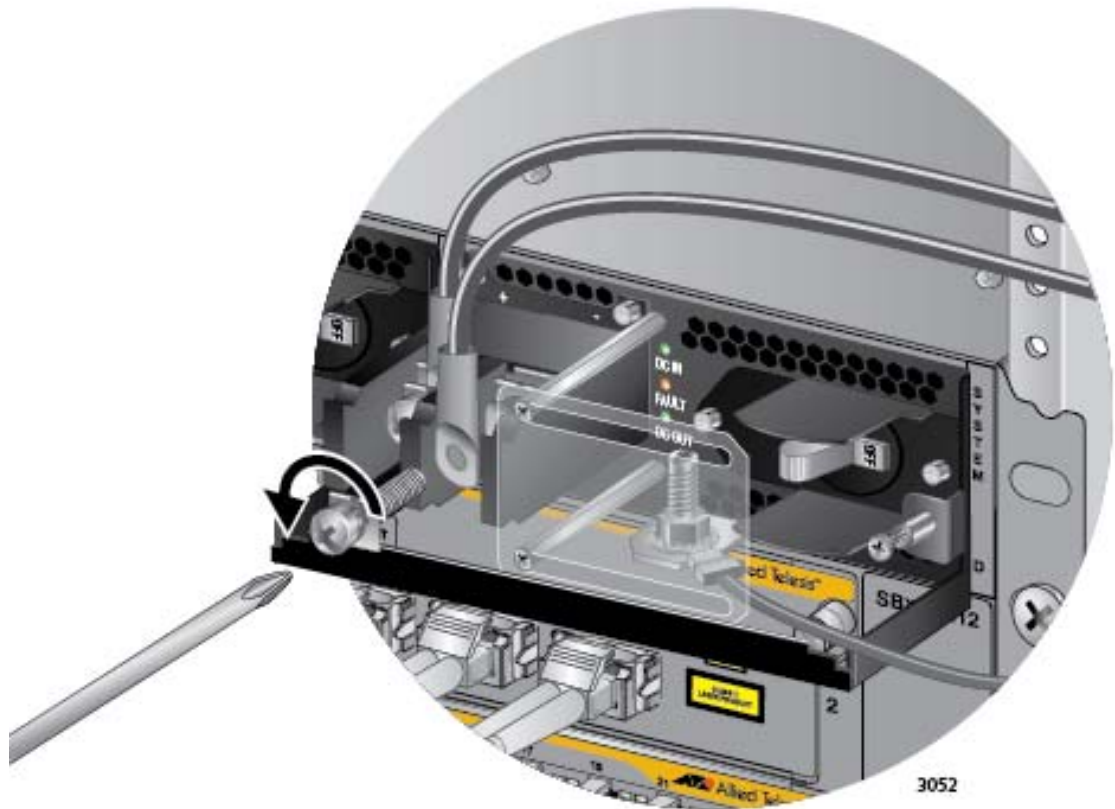

Figure 147. Removing the Negative Lead Wire
5. Use a #3 screwdriver to remove the negative (-) lead wire from the terminal block. The negative lead wire is on the right. Refer to Figure 147 on page 229.